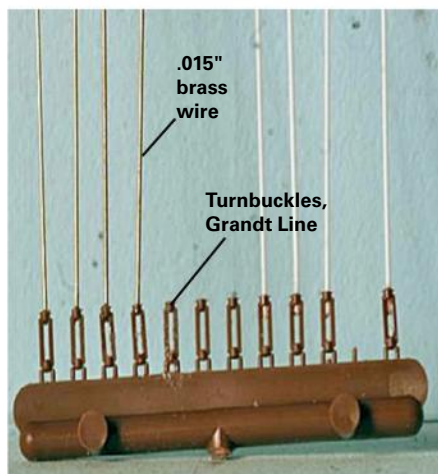

Fig. 3 From turnbuckles to clevises. Grandt Line turnbuckles are cored for .015" brass wire, making it easy to make large batches of brake rod clevises.
Fig. 3 Space for the bolt. The second toggle bolt "nut" is drilled out to remove its threads, and the slot in the toggle bolt "wing" is elongated to accommodate the bolt.
the other nut in the toggle wing, chucked that assembly into a bench vise, and used a no. 28 drill bit (about .14" diameter) in a slow-moving drill to drill out the threads. While the toggle wing was in the vise, I used a round file to elongate the slot near the former toggle's hinge point (See **fig. 3**). Elongating this slot gives the bolt adequate space to move in and out without catching.
I used Grandt Line styrene turnbuckles to model the brake rod clevises. I made up a sprue of brake rods ahead of time. See **fig. 3**. I secured the .015" brass wire to the styrene with cyanoacrylate adhesive (CA). Then I cut the turnbuckles in half. I trimmed the wire to length at installation.